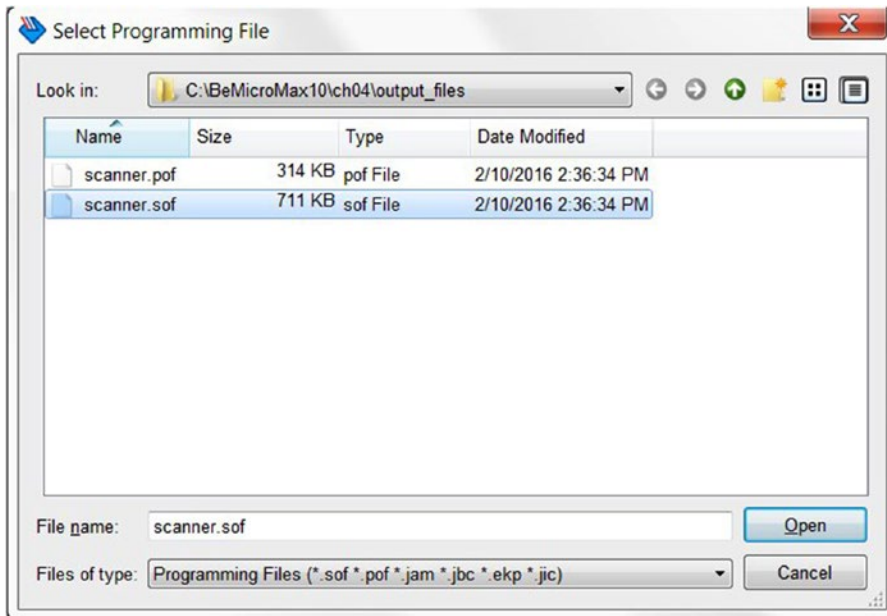

Figure 4-59. Programmer—Select Programming File
4. Select the `output_files` folder under the project and open the bit file `scanner.sof` you just generated (Figure 4-59). This `.sof` file is for directly programming the FPGA, which means it will be stored in SRAM (static random access memory) and thus will be erased when you unplug the FPGA. You can select the `.pof` file instead if you want to upload the bit file to the flash storage inside the FPGA. In this case the program will not get erased by a power cycle.